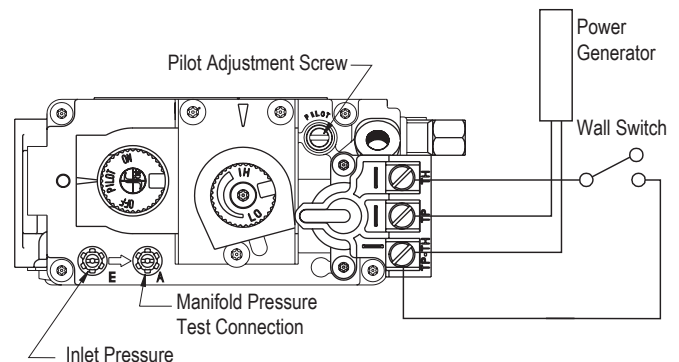

Figure 33. 'Pilot' Adjustment on the **H*38DF*** s gas valve.
1. Locate Pilot Adjustment Screw. (See **figure 33**.)